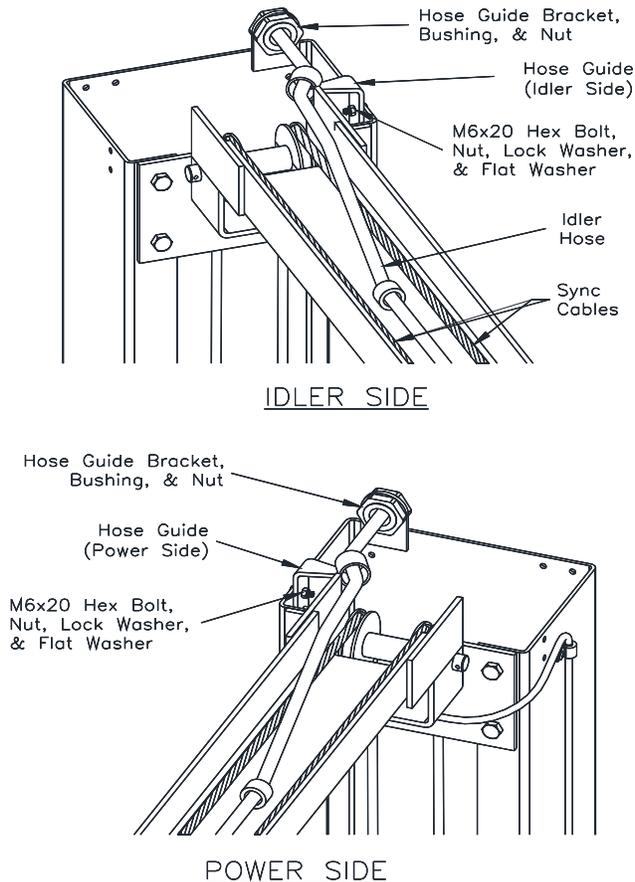

Fig. 8 – Column Extensions
- Attach bolt-on parts to column extensions as shown in **Fig 8** and assemble columns using M12 x 30 Hex bolts. Ensure power extension assembly is bolted to power column. NOTE: Install Nut and Washers on exterior of the assembly.
- 26) Beginning on the idler side, attach the idler hose to the cylinder elbow fitting. Route the idler hose (long) up the backside of the column and through the plastic guide at the top of the extension. Continue across the overhead through each of the guides as shown in **Fig 8** and down the backside of the power column.
30) Use hardware shown in Fig 8 to install bolt-on hose guide components.